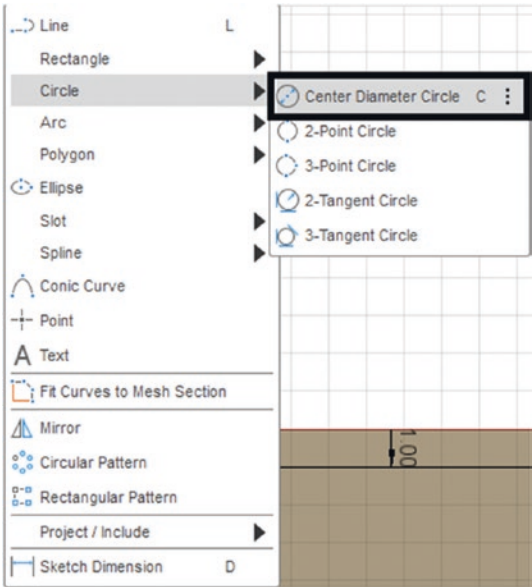

Figure 3-62. Select the Center Diameter Circle
- 14. Now select the Center Diameter Circle by going here: SKETCH ► CREATE ► Circle ► Center Diameter Circle, or just press the “C” key. See Figure 3-62.